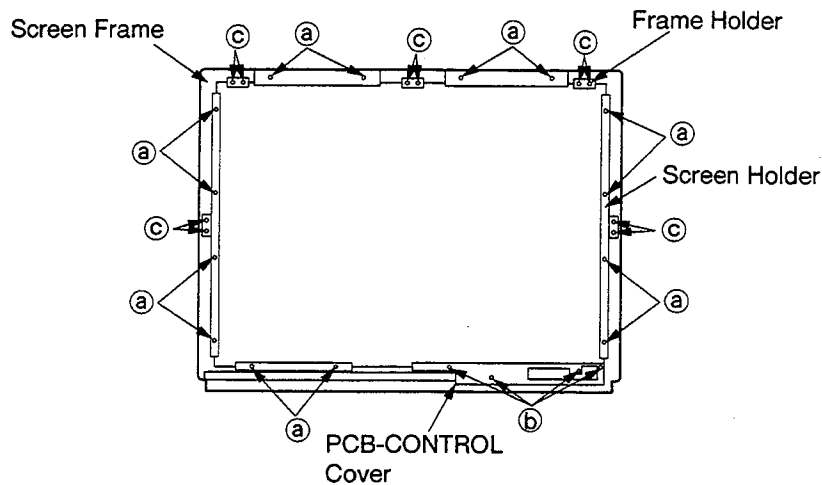

Fig. 5-1
2. Remove 14 screws (a) retaining the Screen Holder. [Fig. 5-1]